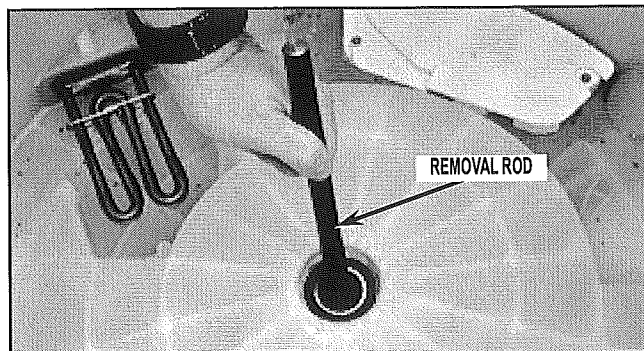

FIGURE 9
13. Drive Bottom Bearing, Bottom Bearing Washer and Spacer Tube out using Removal Rod and hammer. See *Figure 9*.